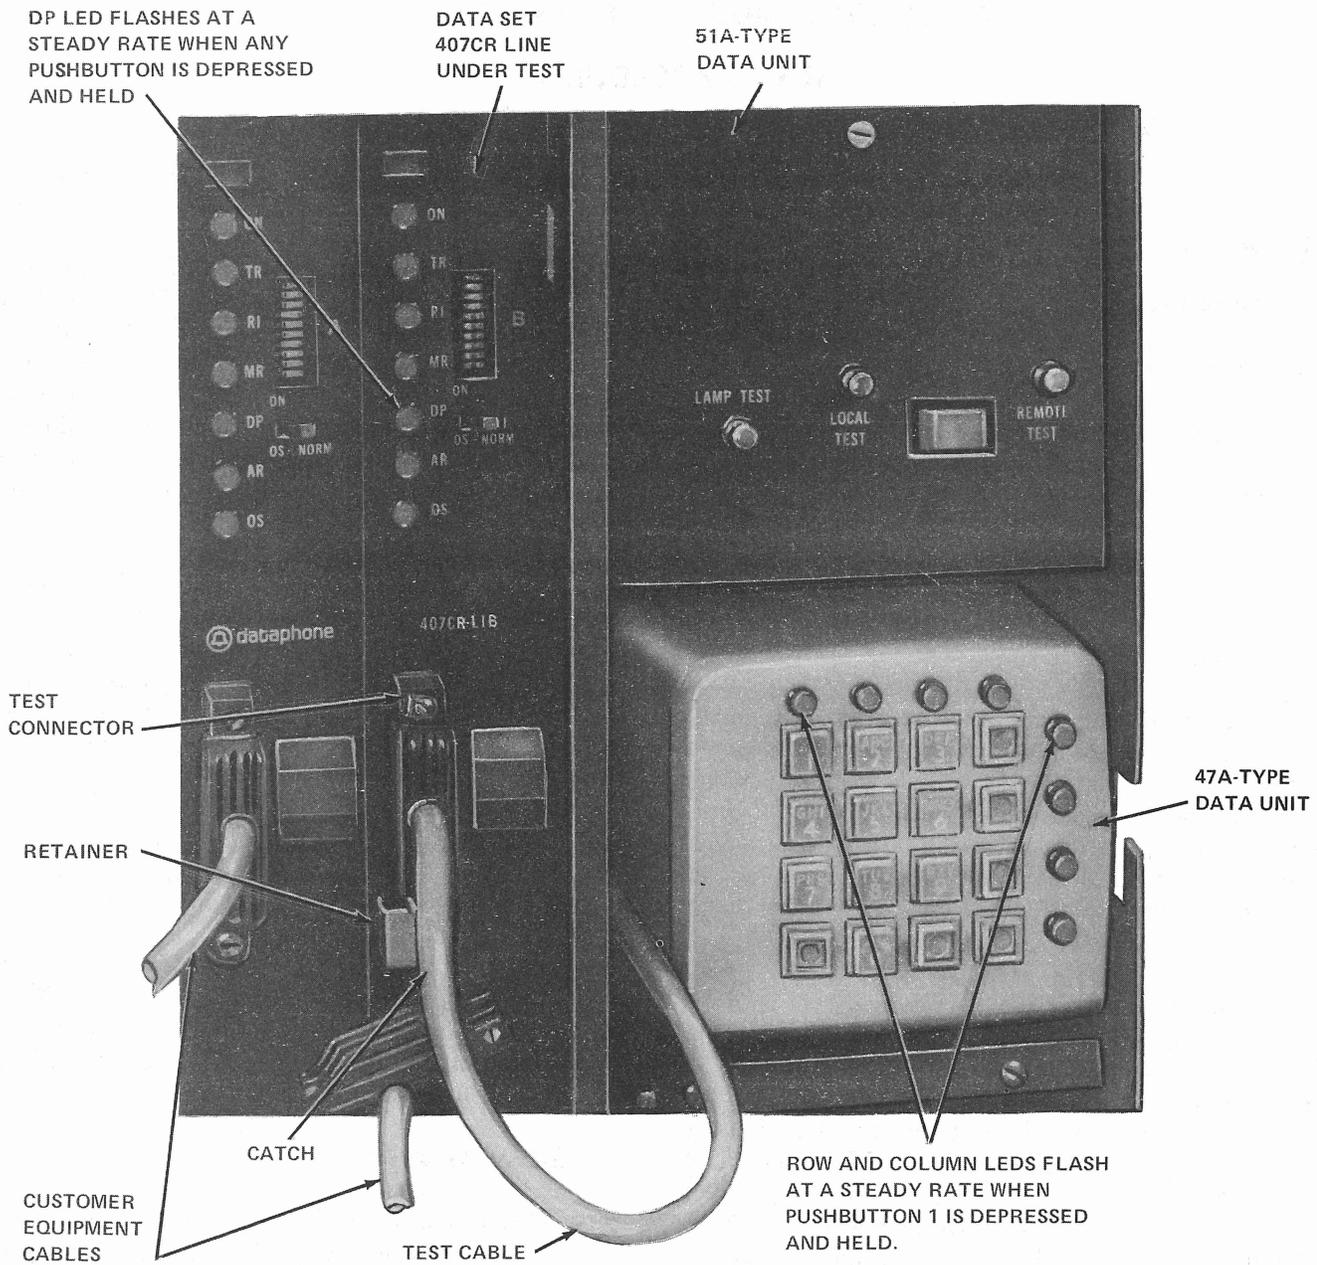

Fig. 1—Data Set 407CR-Type Test Arrangement
1.06 When a data set is placed in the remote test mode, the data set is connected to a service line and then tested by a data test center (DTC). The local test may be conducted by the customer or telephone company (telco) employee using the test unit. A typical test arrangement is shown in Fig. 1.
5	Depress and hold pushbutton 1 on the 47A-type data unit. Requirement: Associated row and column LEDs (on the 47A-type data unit) and DP LED (on the data set line being tested) flash at a steady rate (10 pulses per second). Refer to Fig. 1 for an example of which LEDs are flashing on the 47A-type data unit when pushbutton 1 is depressed and held.
Requirement: Associated row and column LEDs (on the 47A-type data unit) and DP LED (on the data set line being tested) flash at a steady rate (10 pulses per second). Refer to Fig. 1 for an example of which LEDs are flashing on the 47A-type data unit when pushbutton 1 is depressed.